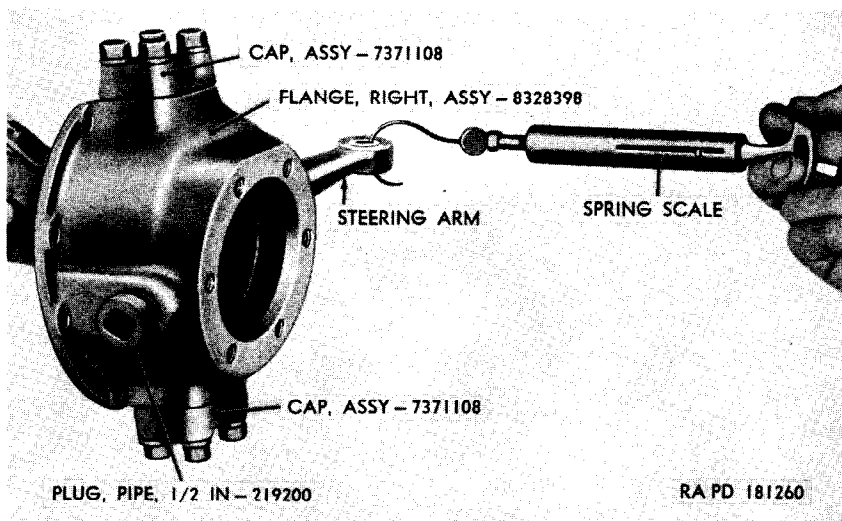

Figure 124. Checking tension of steering knuckle flange cap bearing.
b. *Adjust Steering Knuckle Flanges.* Hook a spring scale in tie-rod stud engaging hole in steering arms. Check tension of steering knuckle flange cap bearings (fig. 124). Effort to turn steering knuckle must be 6 to 9 pounds (3 to 5 lb-ft) without the steering knuckle oil seals in position. Proper tension can be obtained by adding or removing flange cap shims. Shims are supplied as set (a above) in 0.005, 0.010 and 0.030 inch sizes.